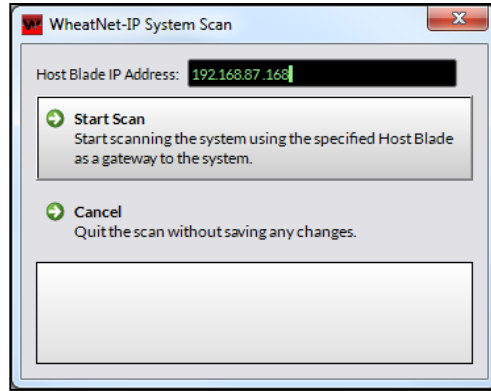

Figure 3-27 System Scan Pop-up
To run a **System Scan**, select the menu item *WheatNet-IP System > System Scan*. A pop-up System Scan window opens (Figure 3-27 on the next page). If the *Host Blade IP* address is not populated enter the Mix Engine's CPU IP address: 192.168.87.168 then click the *Start Scan* button. This operation queries the Mix Engine CPU and every other Blade connected in the WNIP system. Various messages are shown in the status window as it runs. When the scan completes, the *Cancel* control turns into a *Finish* control. Click *Finish*. A "save system info?" dialog pops up. Click *Yes* to save the system info, then
- ❖ *System Scan...* opens the window shown in Figure 3-27 so that a new system scan can be run to update the system info file. When the System Scan finishes you typically save the system info, writing over the generic sysinfo.wnisi3 file in the SysInfo folder. If the app will connect to multiple systems, the SysInfo file name should be edited so every system has a unique system info file name.